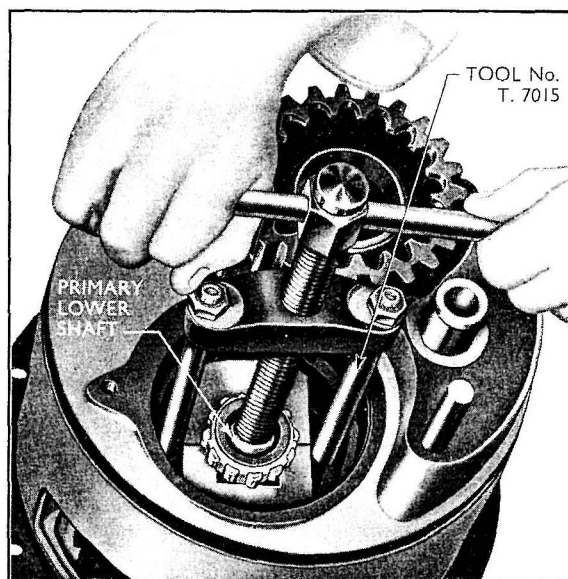

Fig. 25
6. Remove the bearing race from the rear end of the primary lower shaft using Tool No. 7015 and adaptors T.7015-1. (See Fig. 25.)